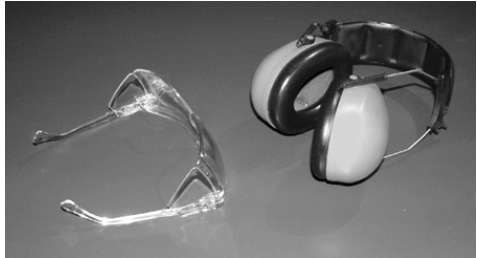

Figure 1
Safety glasses with rigid side shields must be worn by the operator of this driver as well as all others in the work area. See Figure 1.
2. **Wear ear protection** to avoid possible hearing loss. See Figure 1.
1. Wear safety glasses and ear protection recommended in Safety Instructions, Figure 1.